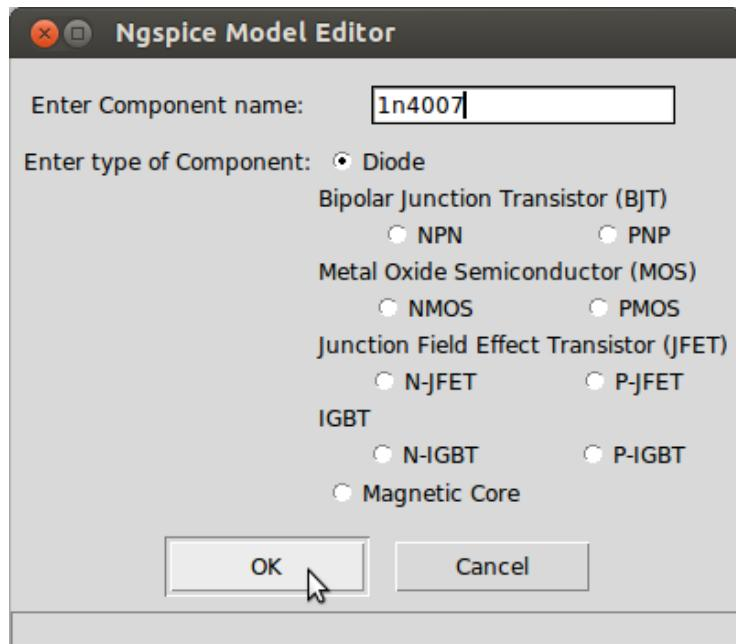
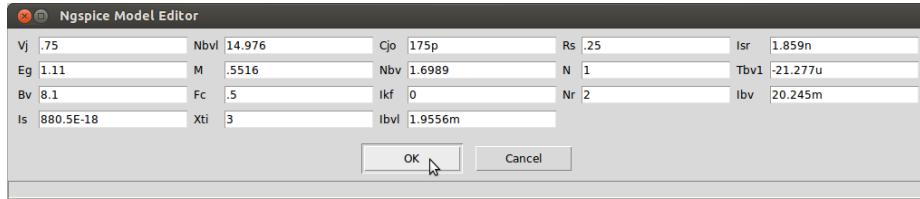

Figure 8.4: Select type of model
Figure 8.5: Edit model paramters
window is illustrated in figure 8.4. Then you will get a window where it asks for the value of model parameters for diode 1N4008 such as reverse breakdown voltage (BV), ohmic resistance (RS) etc. as shown in Figure 8.5. Here you can change the values of the model parameters for 1N4007 diode model as it is given in the datasheet and then click on OK button to save it.